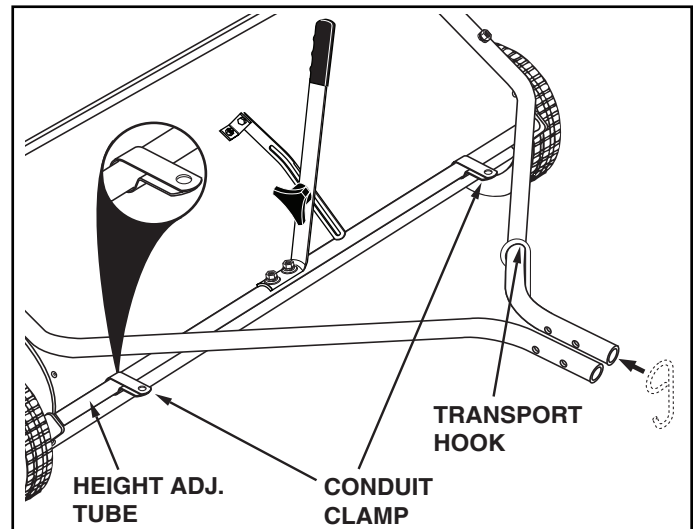

FIGURE 3
1. Assemble a conduit clamp onto each end of the sweeper height adjustment tube so that the straight part of the clamp is on top of the tube. See figure 3.
2. Remove the hitch brackets and the bolts, if present, from the ends of the sweeper's hitch tubes. Slide the transport hook onto the L.H. hitch tube as shown in figure 3.